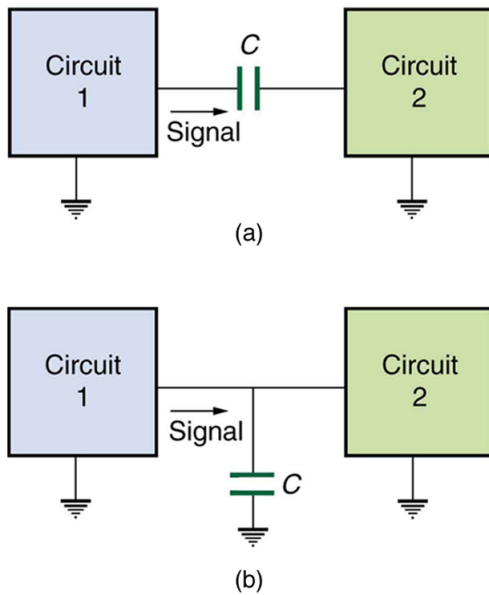

Figure 23.55 Capacitors and inductors. Capacitor with high
27. Explain why the capacitor in Figure 23.55\(a\) acts as a low-frequency filter between the two circuits, whereas that in Figure 23.55\(b\) acts as a high-frequency filter.
28. If the capacitors in Figure 23.55 are replaced by inductors, which acts as a low-frequency filter and which as a high-frequency filter?